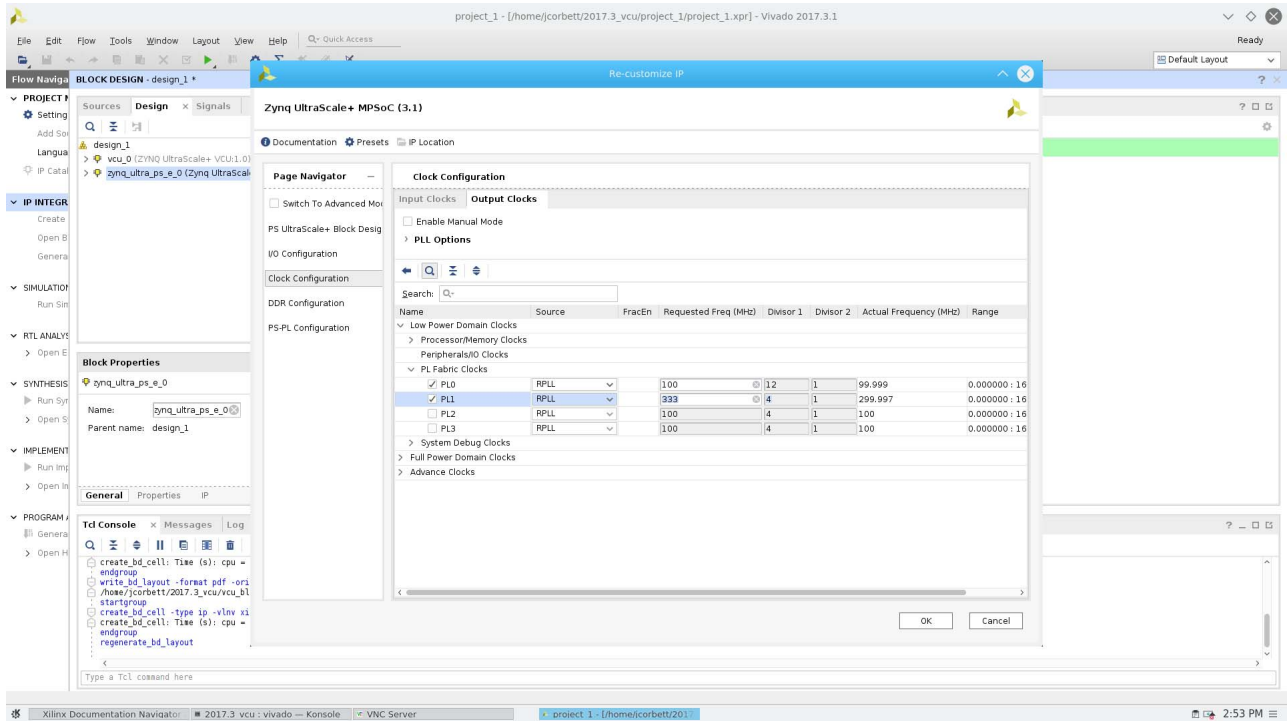

Figure 11-9: Re-customize IP
Figure 11-9 shows an example of configuring the PS-PL interface signals.
11. Select PL1 clock frequency as 333 MHz as shown in Figure 11-9.